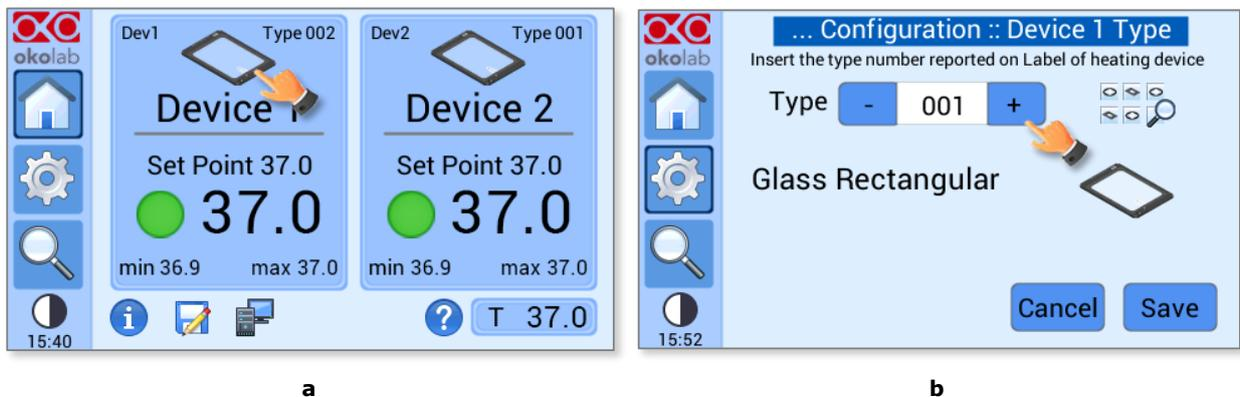

Figure 22. Device Type selection from Homepage (a b).
- the Device icon on homepage (see Figure 22 a). Device Type configuration submenu will appear (see Figure 22 b).